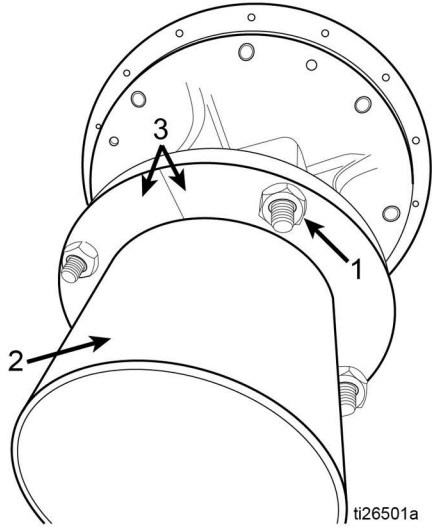

FIG. 12
1. Remove four nuts (1) from the lower part of the pump as shown in FIG. 12.
2. Slide gasket (Part No. 162788) over pump intake cylinder (2). Align holes with cylinder mounting collars (3) and pump (FIG. 12).